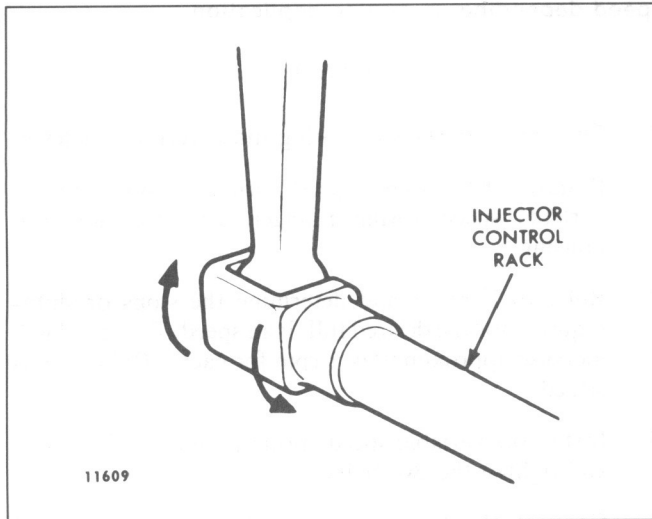
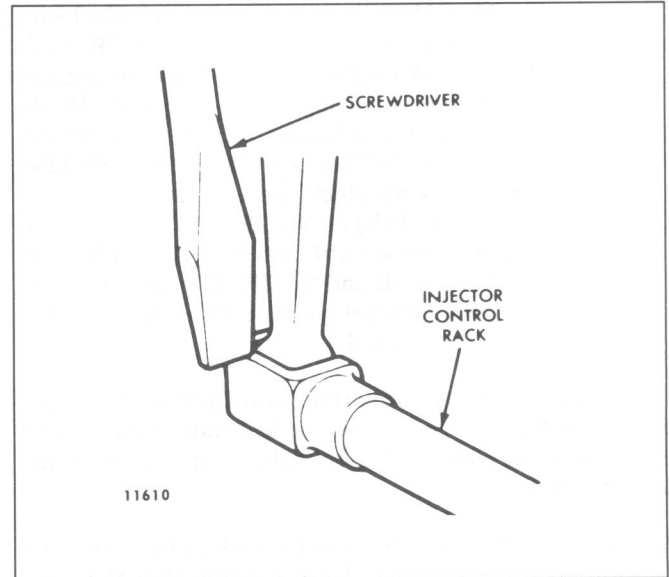

Fig. 5 – Checking Rotating Movement of Injector Control Rack
Fig. 6 – Checking Injector Control Rack “Spring”
5. To be sure of the proper rack adjustment, hold the stop lever in the *run* position and press down on the injector rack with a screwdriver or finger tip and note the “rotating” movement of the injector control rack when the stop lever is in the *run* position (Fig. 5). Hold the stop lever in the *run* position and, using a screwdriver, press downward on the injector control rack. The rack should tilt downward (Fig. 6) and, when the pressure of the screwdriver is released, the control rack should “spring” back upward.